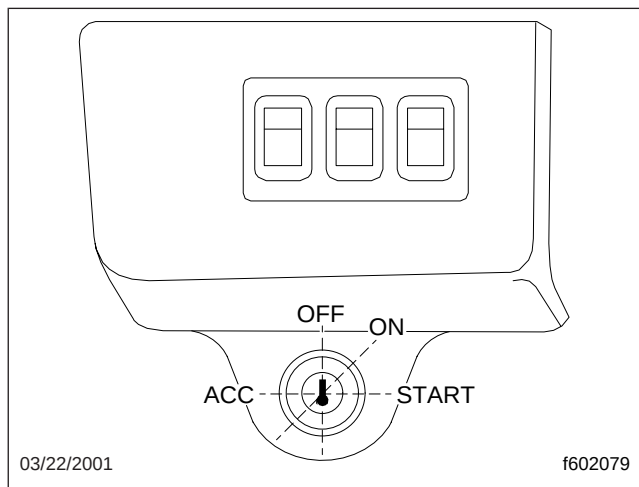

Fig. 7.6, Ignition Switch Positions
1. Turn the ignition switch to the on position (Fig. 7.6). All the electronic gauges on the ICU (instrumentation control unit) complete a full sweep of their dials, the warning and indicator lights light up, and the buzzer sounds for three seconds.
Turn the ignition switch to the on position (Fig. 7.6).
The intake air preheater is activated by turning the ignition switch to the on position (**Fig. 7.6**). If the engine is at normal temperature, the INTAKE HEATER indicator goes out after two seconds.